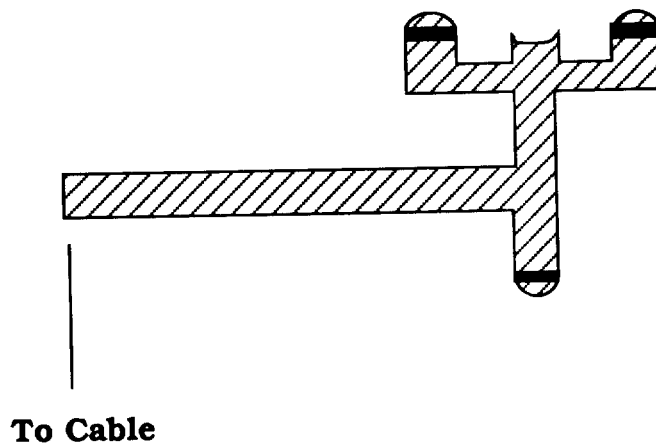

Figure 1
1. Attach Model 3170 Sleep Lab Airflow Cable into the appropriate size Model 970 series airflow sensor. Shown in figure 1.